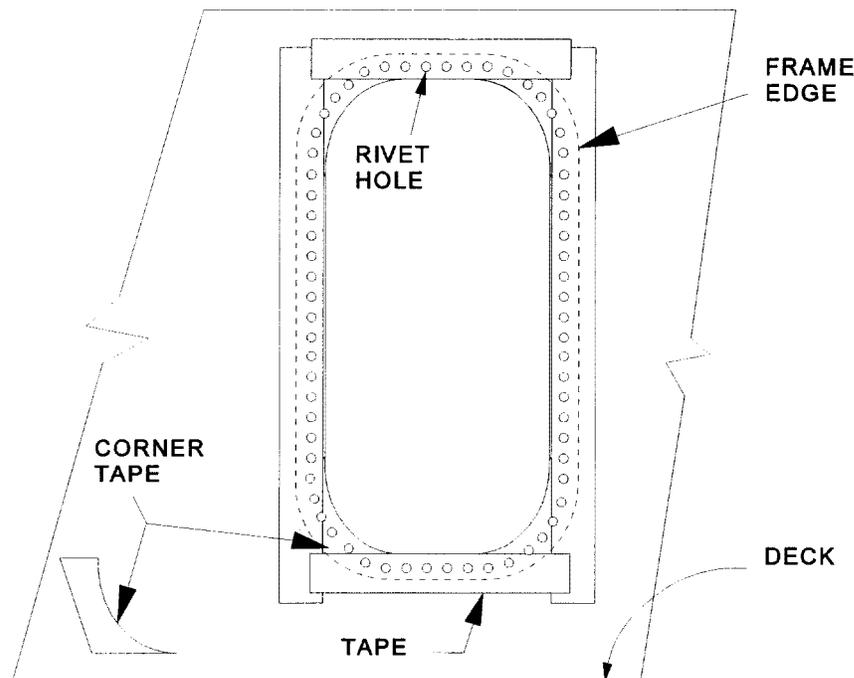

Figure 3-18. Dielectric Tape Installation
- b. Drill holes for huck rivets through the frame and bulkhead. For a standard 8- or 10-dog door, drill approximately 60 holes. Drill the holes close enough to the outer edge of the door frame to avoid having huck rivets interfere with the operation of the quick-acting linkage assembly. See figure 3-18.
- c. Before installing the door frame, apply two layers (8-1/2 millimeters each, 17 millimeters total) of dielectric barrier tape to the area of the bulkhead that will be in contact with the door frame. The bulkhead must be smooth. (Refer to paragraph 3-2.11.1.) Install strips of dielectric tape along the entire edge of the clear opening. Cut curved pieces for the corners. See figure 3-18.